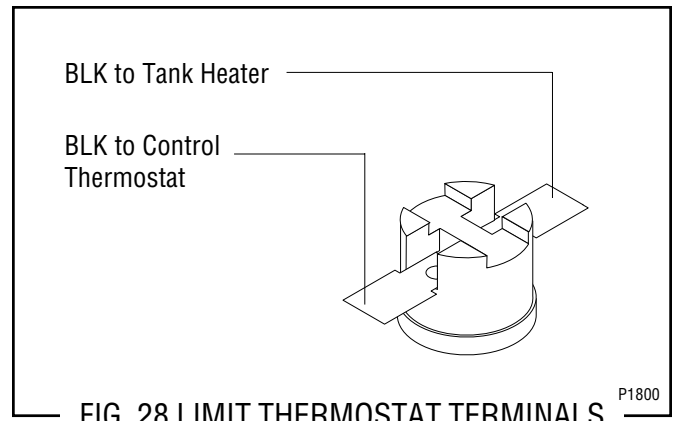

FIG. 28 LIMIT THERMOSTAT TERMINALS
4. Refer to Fig. 28 when reconnecting the wires.